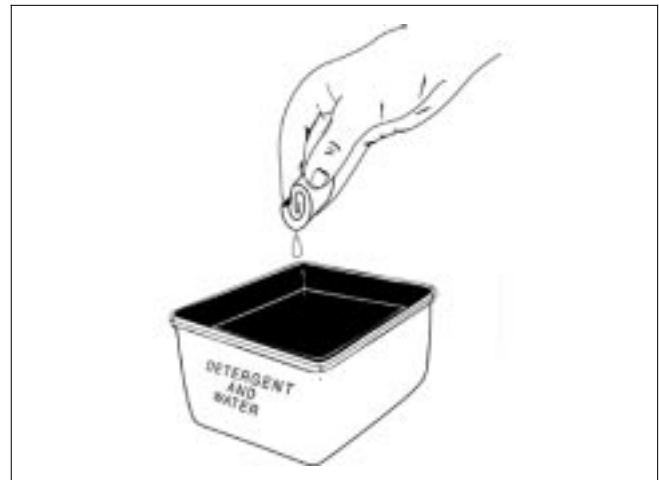

Figure 1-8. Washing Air Filter Element.
2. Wash the air filter in detergent and water (Figure 1-8). Rinse the air filter thoroughly in clean water and allow it to dry.